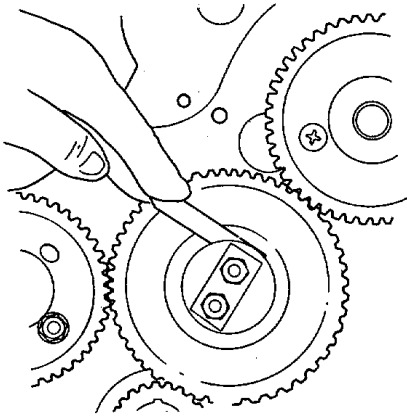

Figure 5-31. Idler Gear End Float.
- (4) When the backlash has been correctly set, torque the idler hub setscrews (1) to 31 lb.-ft. (42 Nm).
- (5) Check the idler gear end float (see Figure 5-31). The limits are 0.003-0.008 in. (0.076-0.203 mm).